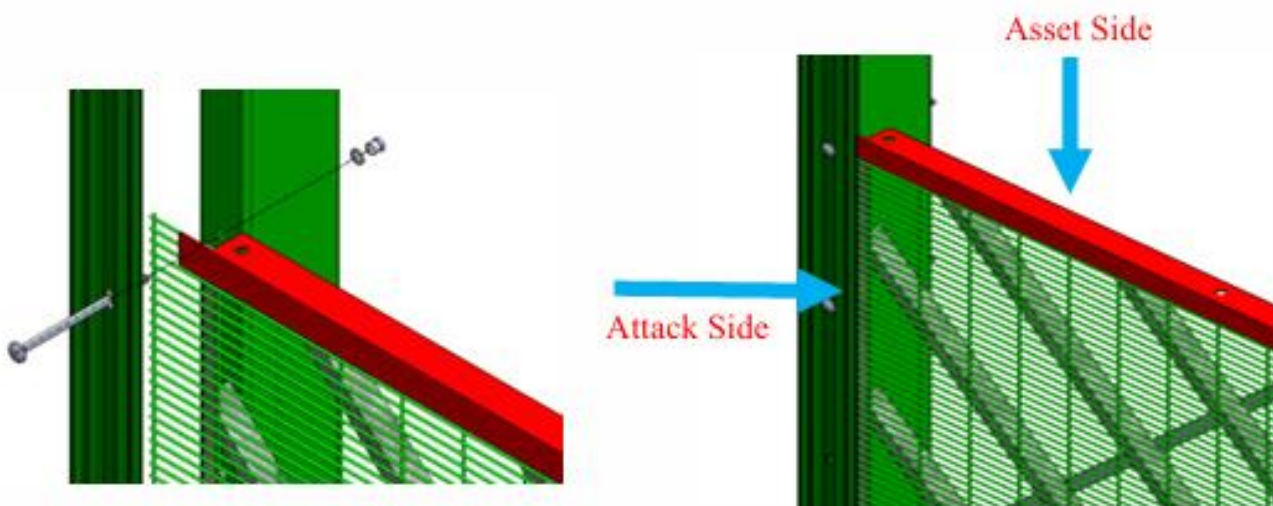

Fig. 03
- Fix both ends of the front weld mesh panel with the front face of the post (60mm) using Profile Cover Plate, Mushroom Head (M8 x 160mm) bolt, Security nut, and washer as shown in fig. 03.